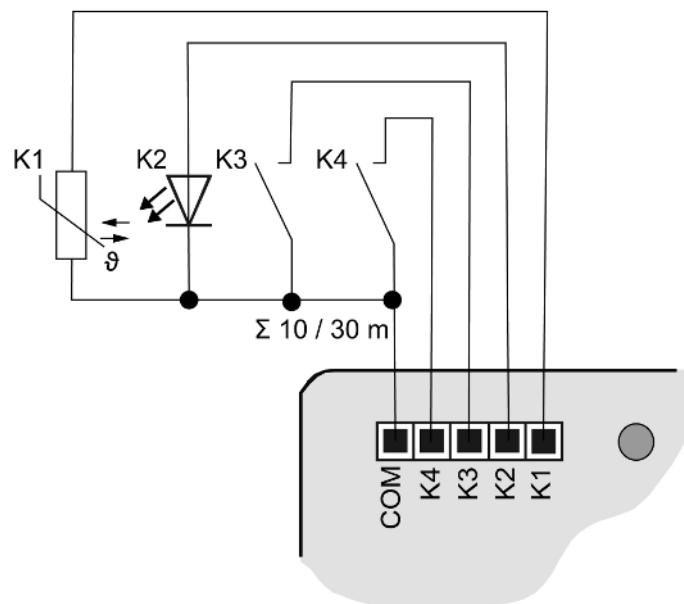
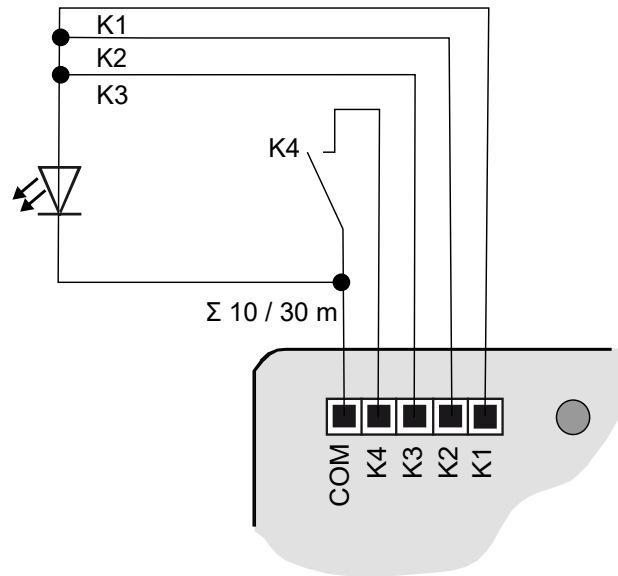

Figure 7: Connection example
Figure 8: Connection example with outputs switched in parallel
- Optional (only "Comfort" variant) (see chapter "Accessories" ▶ Page 26): Connect push-buttons, switches, contacts, LEDs or NTC according to the connection examples with the enclosed connection cables. The connection examples (and (see figure 8)) show how to use them with inputs, outputs and sensors.
- Connect push-buttons, switches, contacts, LEDs or NTCs as shown in the connection examples using the enclosed connection cables ((see figure 7) and (see figure 8)). The connection examples show the use with inputs, outputs and sensors.
It is possible to switch outputs in parallel, for loads with high energy consumption. (see figure 8) and **K1-K3** are switched in parallel in this example.